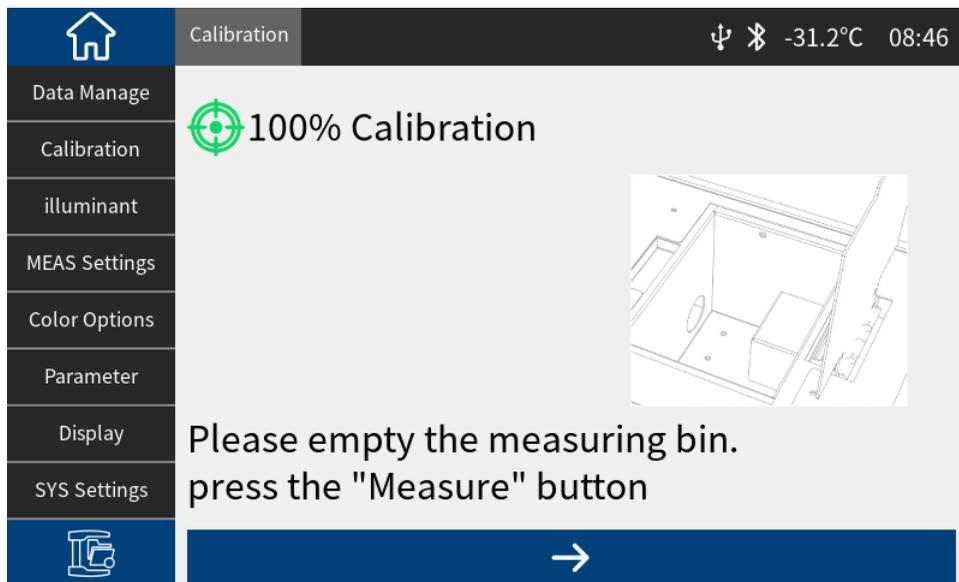

Figure 5 100% Calibration
4. After completing the 0% calibration, automatically enter the 100% interface in Figure 5, take out the blackboard according to the prompts (place the corresponding reference object or leave nothing), and then press the measurement button to perform white calibration.